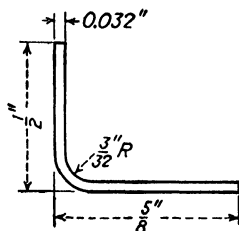

Fig. 318.—Angle of bend 90° .
82. Calculate the bend allowance for the fitting shown in Fig. 318.
83. Find the over-all or developed length of the fitting in Fig. 318.